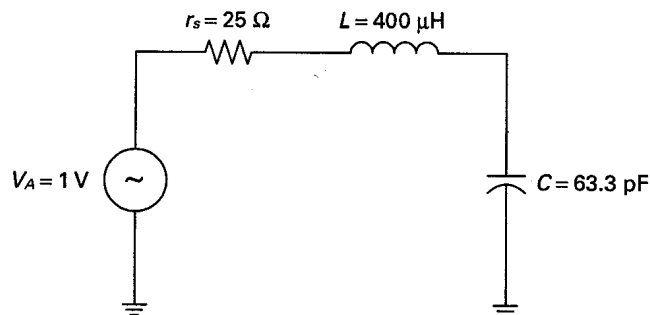

Fig. 1-15
- 1.4 Refer to Fig. 1-15. Calculate the resonant frequency,  $f_0$ . Also, solve for the following at  $f_0$ :  $X_L$ ,  $X_C$ ,  $Z_T$ ,  $I$ ,  $V_L$ ,  $V_C$ , and  $\Theta_Z$ .
**1.5** In Fig. 1-15, calculate  $Q$ , BW,  $f_1$ , and  $f_2$ .